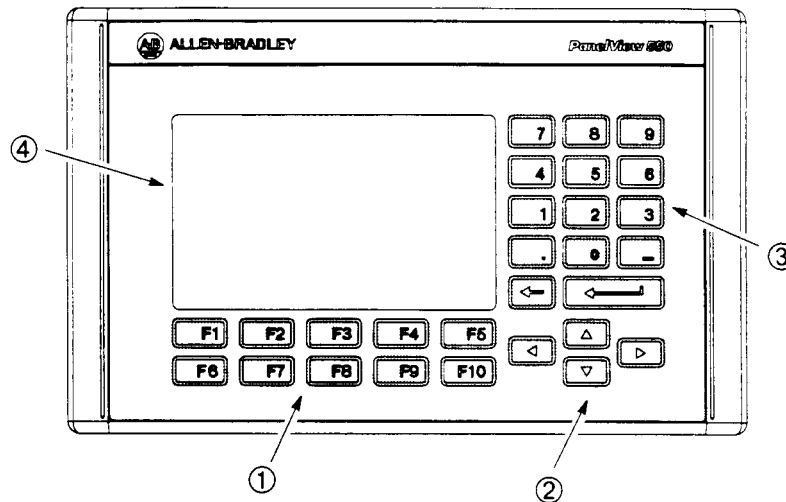

Figure 1 – MVD Display Terminal
The terminal used on the Bulletin 1557 Medium Voltage Drive is that of the PanelView 550 (Figure 1). This terminal however does not behave as a PanelView, as only the hardware for the terminal has been utilized. The PanelView software has been replaced with unique software to tailor it to the requirements of the Medium Voltage Drive.
The keypad of the terminal consists of two rows of five functions keys (item 1 of Figure 1) located below the terminal's display area (item 4 of Figure 1). In the lower right corner of the terminal are four keys which will be referred to as the cursor keys (item 2 of Figure 1). Above the cursor keys are data entry keys consisting of the numeric values 0-9, a decimal point (.), a negative (-), a backspace key and a data entry key (item 3 of Figure 1).